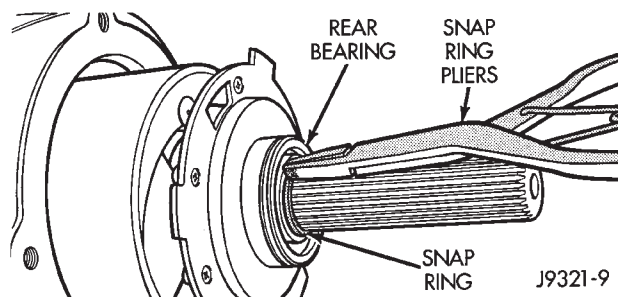

Fig. 9 Removing Rear Bearing Snap Ring
- (9) Remove rear bearing snap ring (Fig. 9).